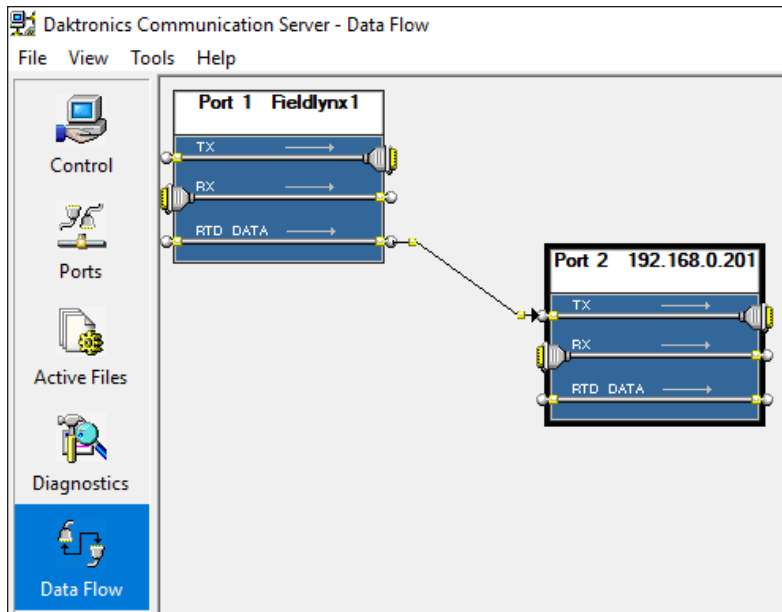

Figure 82: Data Flow
- In the Data Flow screen (**Figure 82**), create a connection between **RTD DATA** of *Port 1* to **TX** of *Port 2* by clicking and dragging between the two points.